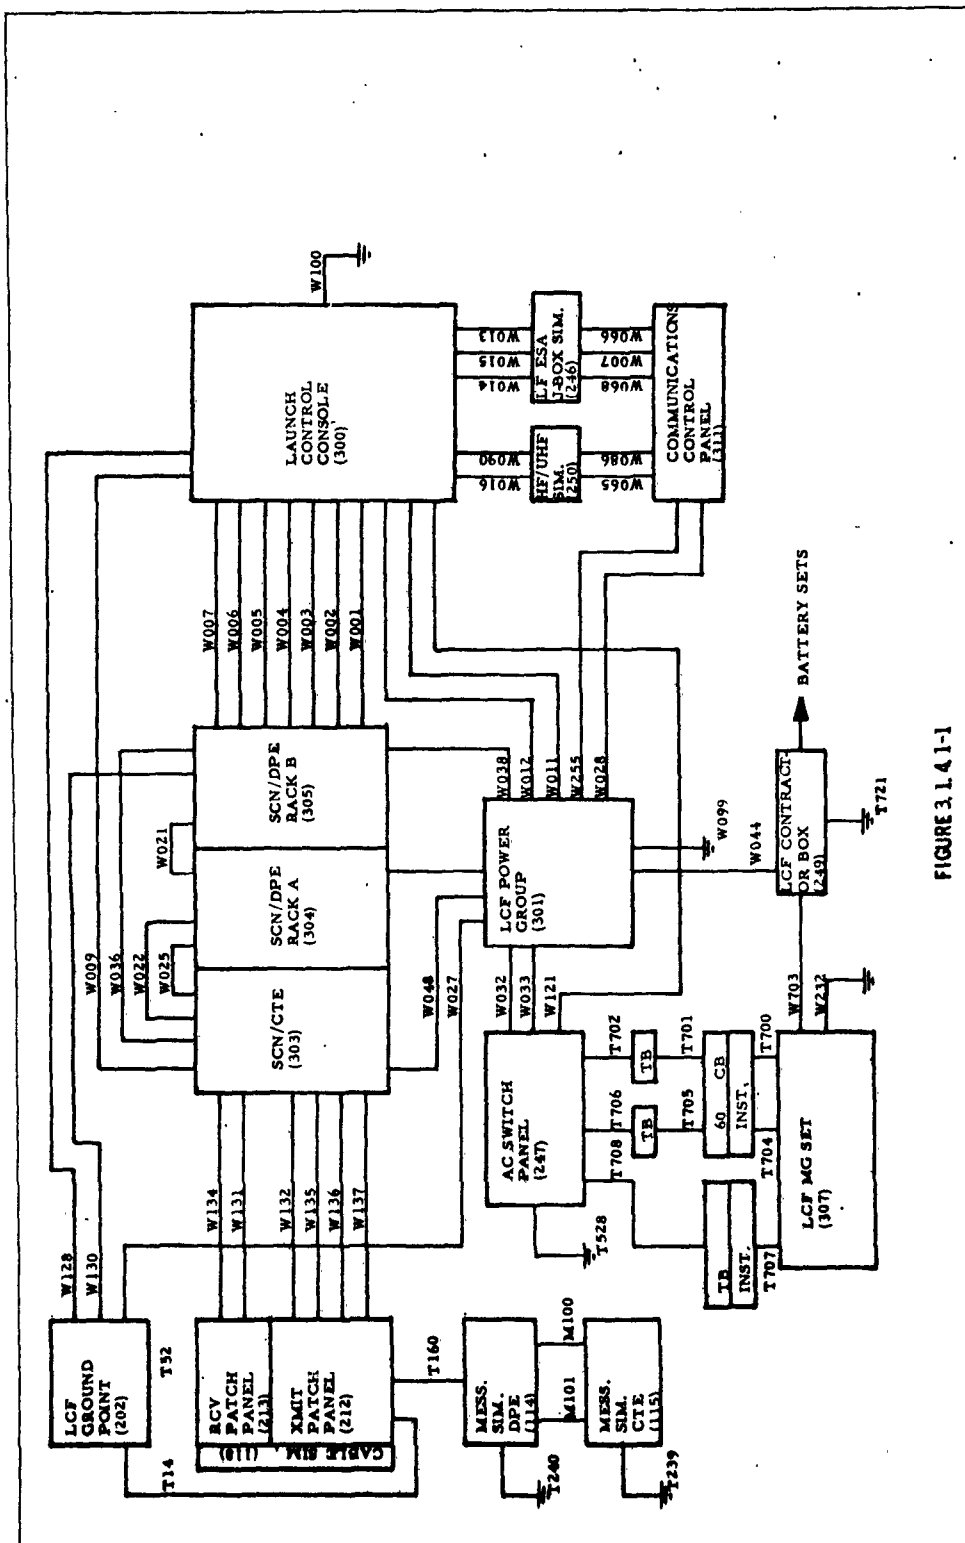

FIGURE 3.1.4.1-1
3.1 Connect the equipment per Figures 3.1.4.1-1 and 3.1.1.1-2.
4.1 See Figures 3.1.4.1-1 and 3.1.1.1-2
3.1 Connect the equipment per Figures 3.1.4.1 and 3.1.1.1-2
3.1 Connect the equipment per Figures 3.1.4.H and 3.1.1.1-2